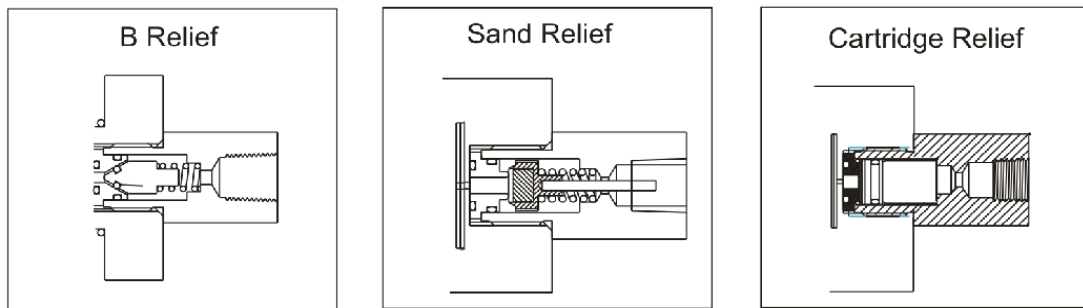

Figure 1
2.2.2 Use tubing to connect from the probe to the sample inlet port (Port A, Figure 1) of the sampler.